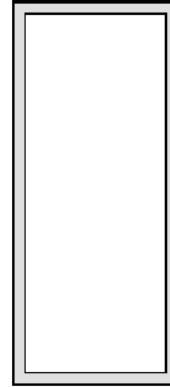

Figure 8. Solder Paste Application on Pins
4. The aperture opening for the signal pads should be between 50–80% of the QFN pad area as shown in Figure 8.